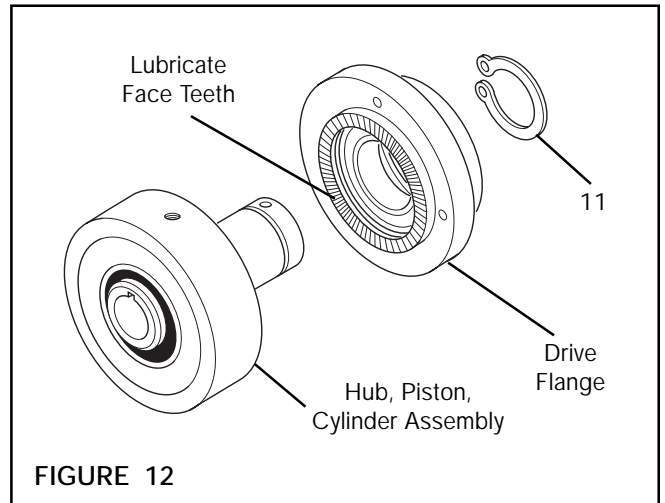

FIGURE 12
10. Lubricate Drive Flange face teeth with Never-Seez® (See Figure 12).
11. Fully supporting inner race of the Bearings within the Drive Flange, press Hub, Piston, Cylinder Assembly into the Bearings within the Drive Flange (See Figure 12).
12. Install the Retaining Ring (Item 11) (See Figure 12).